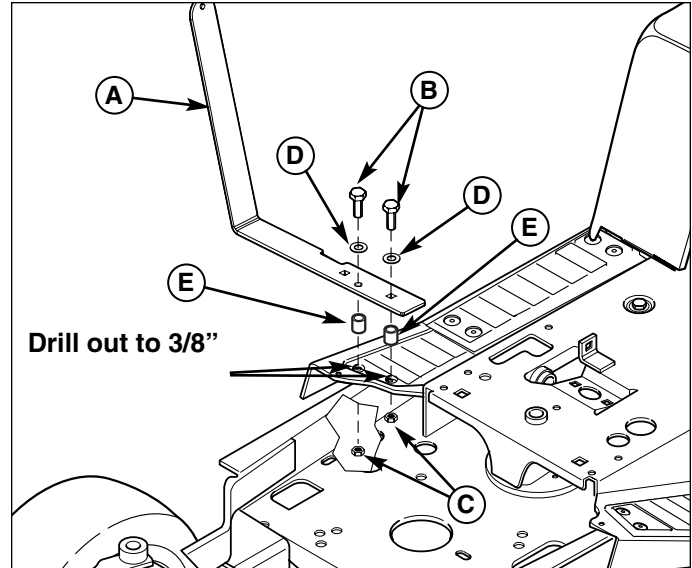

Figure 23. Control Rod Support
NOTE: If installing the dozer attachment on a unit equipped with a snowcab, replace the control rod support (A, Figure 23) with the hanging support (Ref. No. 40, Figure 9). Mount the hanging support to the front cab cross-bar.
1. Remove and discard the front two ratchet fasteners from the right foot rest pad. Drill out the holes using a 3/8" drill (Figure 23).
2. Set the angling control support (A, Figure 23) and spacers (E) on the foot rest pad. Insert two 5/16-18 x 1-1/2 capscrews (B) through the support spacers, footrest pad, and footrest. Secure using washers and nuts (C).